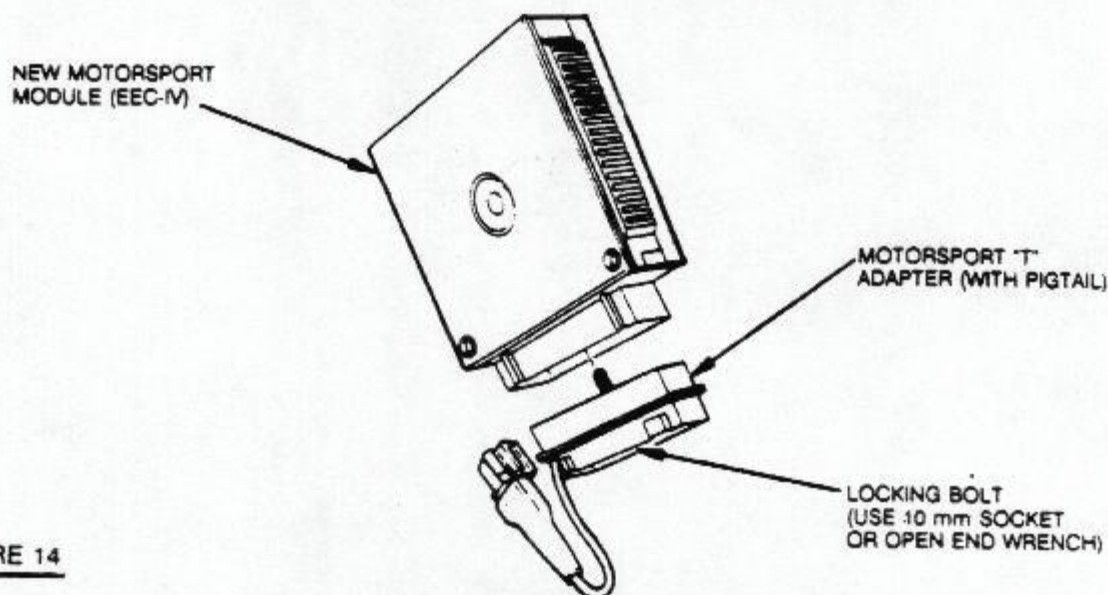

FIGURE 14
- STEP 21** Route new harness from dash panel grommet along existing harness and plug into pigtail connector on "T" adapter. See figure 14.